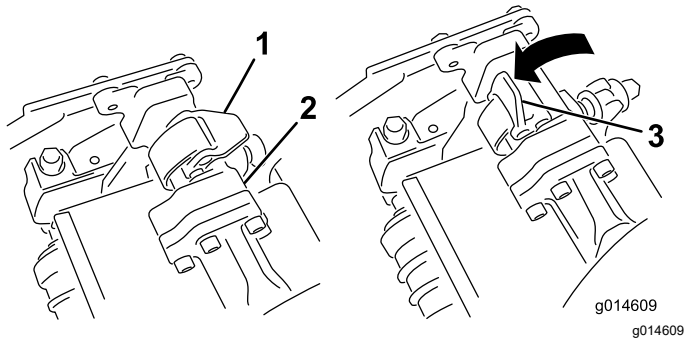
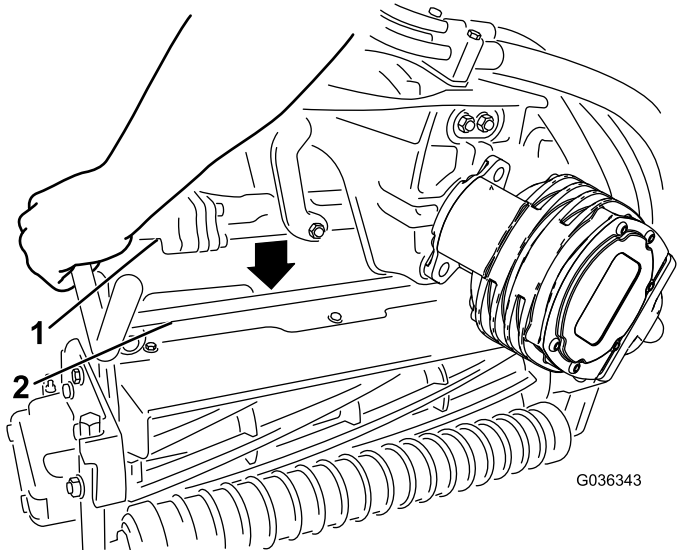

Figure 54
Figure 55
- 4. With the latches on the suspension-arm bar pointing up (i.e., open) (Figure 54), push the suspension arm down so that the bar fits over the bar across the top of the cutting unit (Figure 55).
- 5. Close the latches down and around the cutting-unit bar and lock them in place (Figure 54).
5. Open the latches on the suspension-arm bar of the cutting unit you are removing (Figure 54).